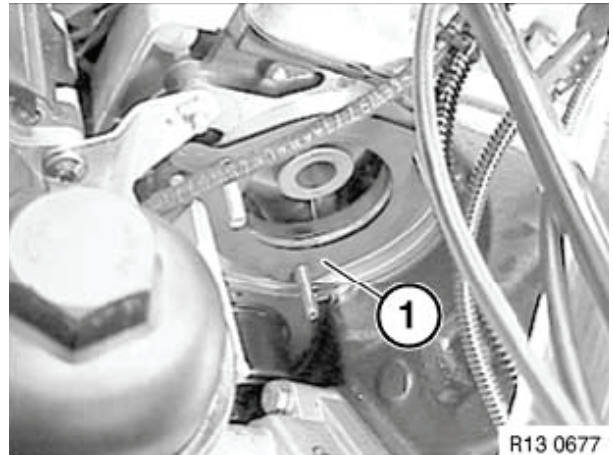

Figure 6-30
2. Ensure gasket surfaces of the engine block and high-pressure pump are clean. Install new gasket (**Figure 6-30, (1)**).